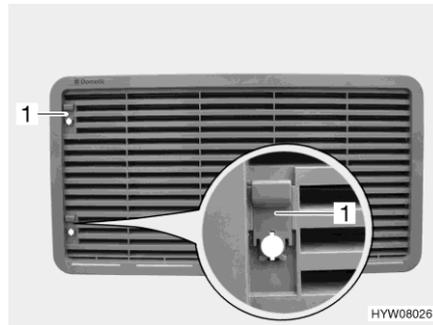
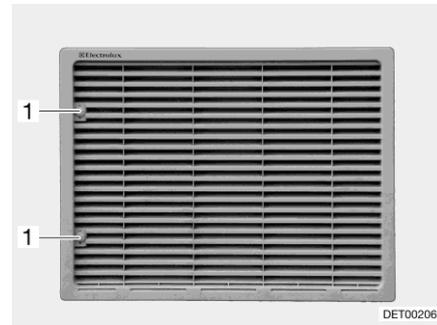

Fig. 142 Refrigerator ventilation grill (with sliding trap)
Fig. 143 Refrigerator ventilation grill (with screw)
- Depending on version: Push up the sliding trap (Fig. 142,1) or turn the screw (Fig. 143,1) a quarter turn using a coin.